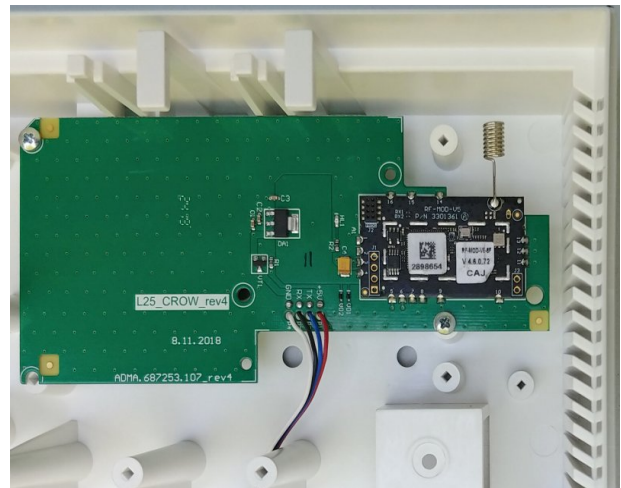

Figure 27. Adapter «L25\_Crow\_rev4» in the device housing
- “**L25\_CROW\_rev4**” Adapter – should be installed into the device housing (Figure 27);